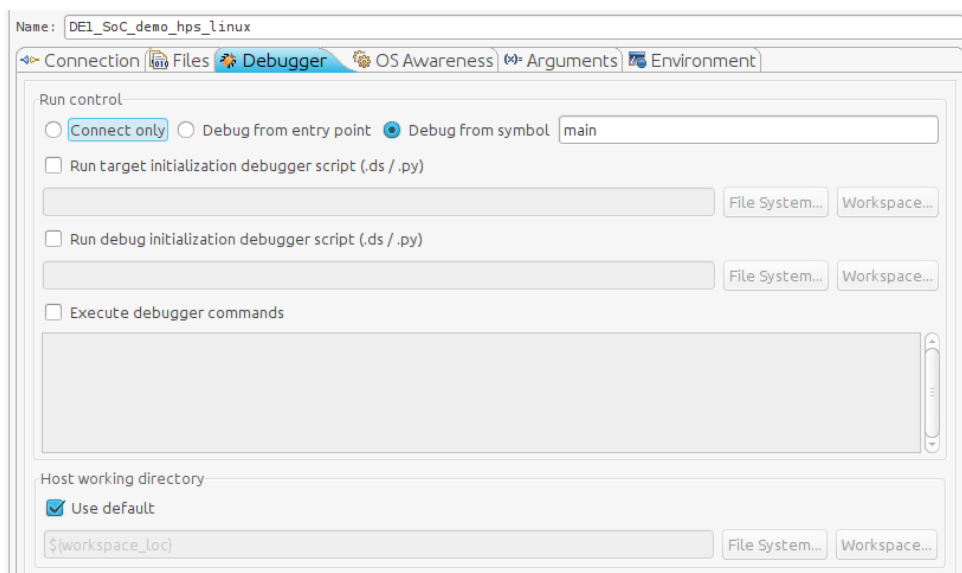

Figure 13-17. Debug Configuration “Debugger” Tab
87. Under the “Debugger” tab, make sure that “Debug from symbol” is selected and that “main” is the name of the symbol, as shown in Figure 13-17.